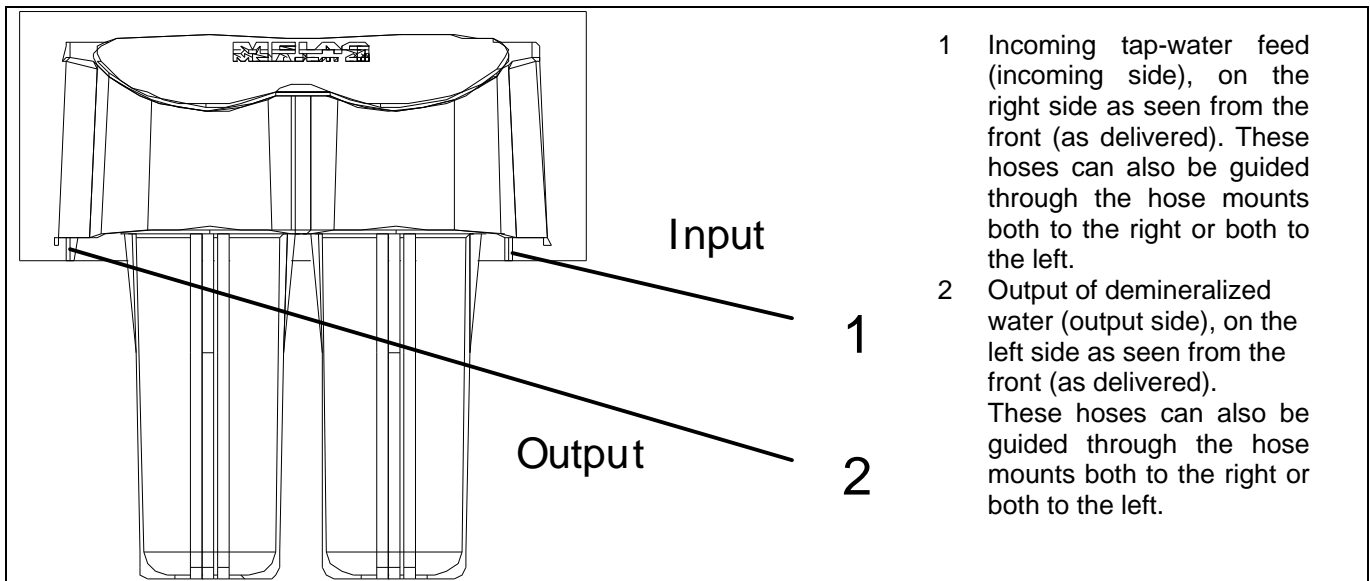

Figure 2: Incoming and outgoing positions of the hoses
IMPORTANT: It is absolutely necessary to ensure the correct flow direction of the water. Please see *Figure 2* for the position of the incoming water feed and the outgoing supply points for the MELAdem[®]40.
1. Install the conductivity sensor, i.e. the T-piece with mounted conductivity probe, between the outlet side of the MELAdem®40 (fig. 2, pos. 2) and the feed water inlet to the autoclave by disconnecting the inflow hose towards the feed water inlet and inserting the T-piece.